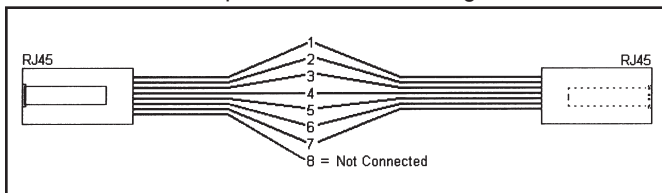

Figure 5. Data Cable
I. If using a TR2000 SmartHub along with the 62030, construct a data output cable. Refer to Figure 5.